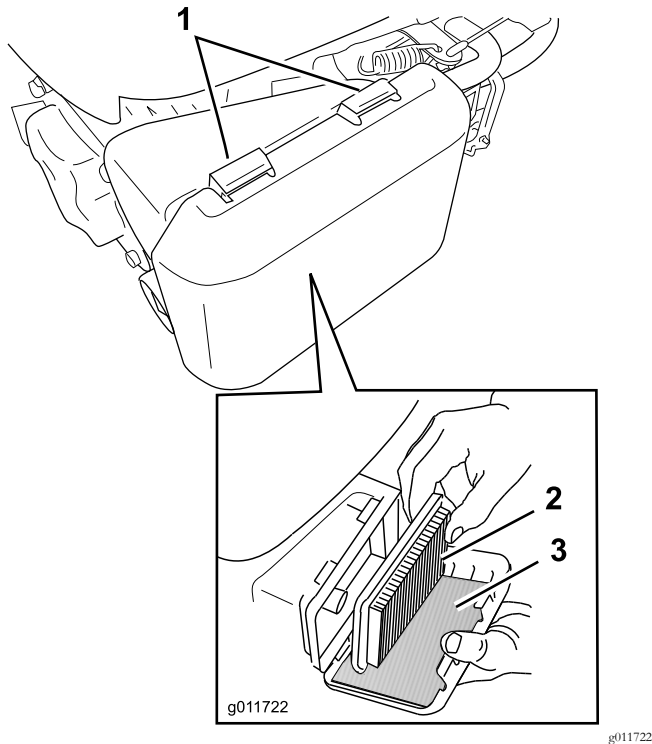

Figure 27
1. Press down on the latch tabs on top of the air-cleaner cover (Figure 27).
3. Remove the paper air filter and the foam pre-filter (Figure 27).